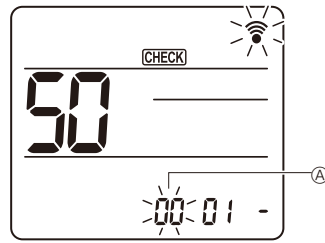

Fig. 6-19
② Setting the unit number
Press the **DOWN** button to set unit number ①. (Fig. 6-19)